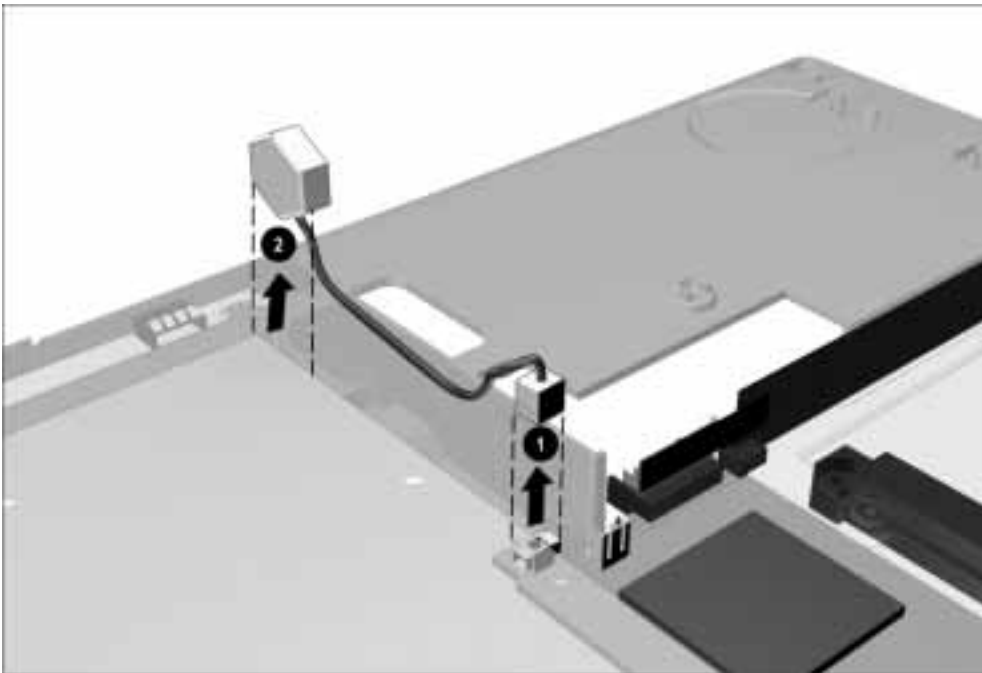

Figure 5-27. Removing the RTC Battery
3. Use the connector removal tool to disconnect the RTC battery cable from the system board ❶ (Figure 5-27).
4. Lift and remove the RTC battery ❷.